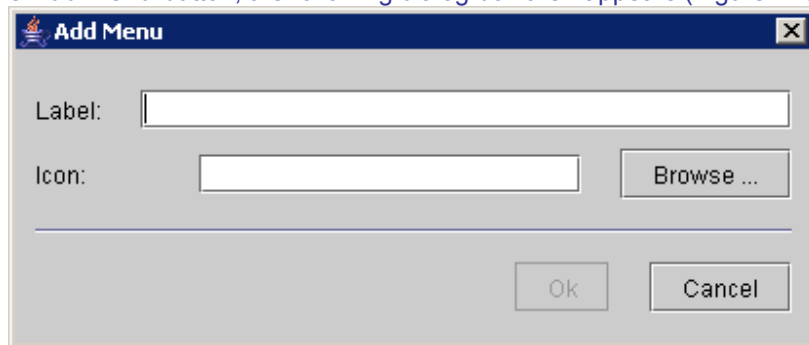

Figure 175 : Add menu
- Click on the **Add Menu** button, the following dialog box then appears (Figure 175):